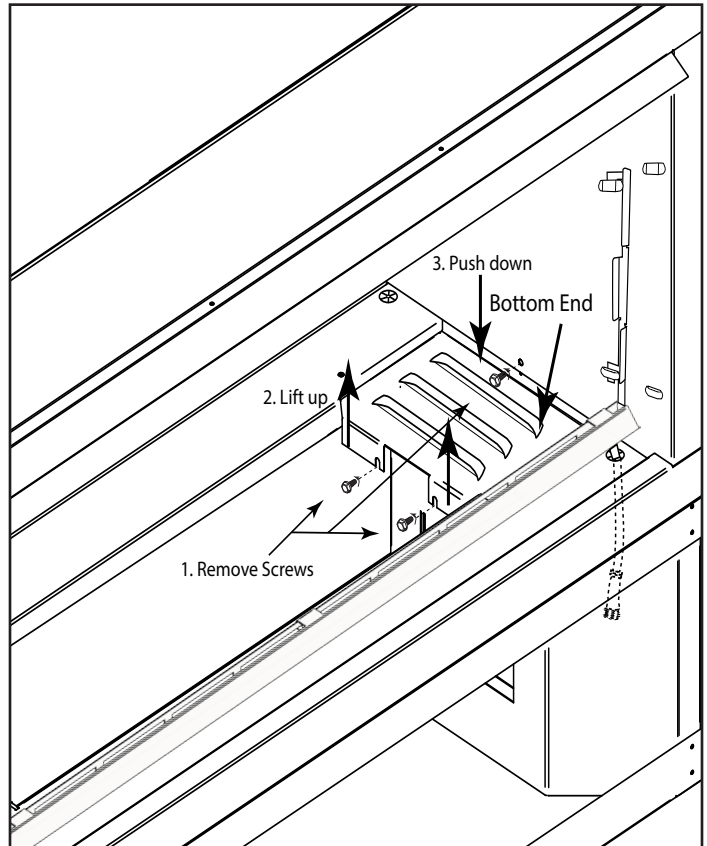
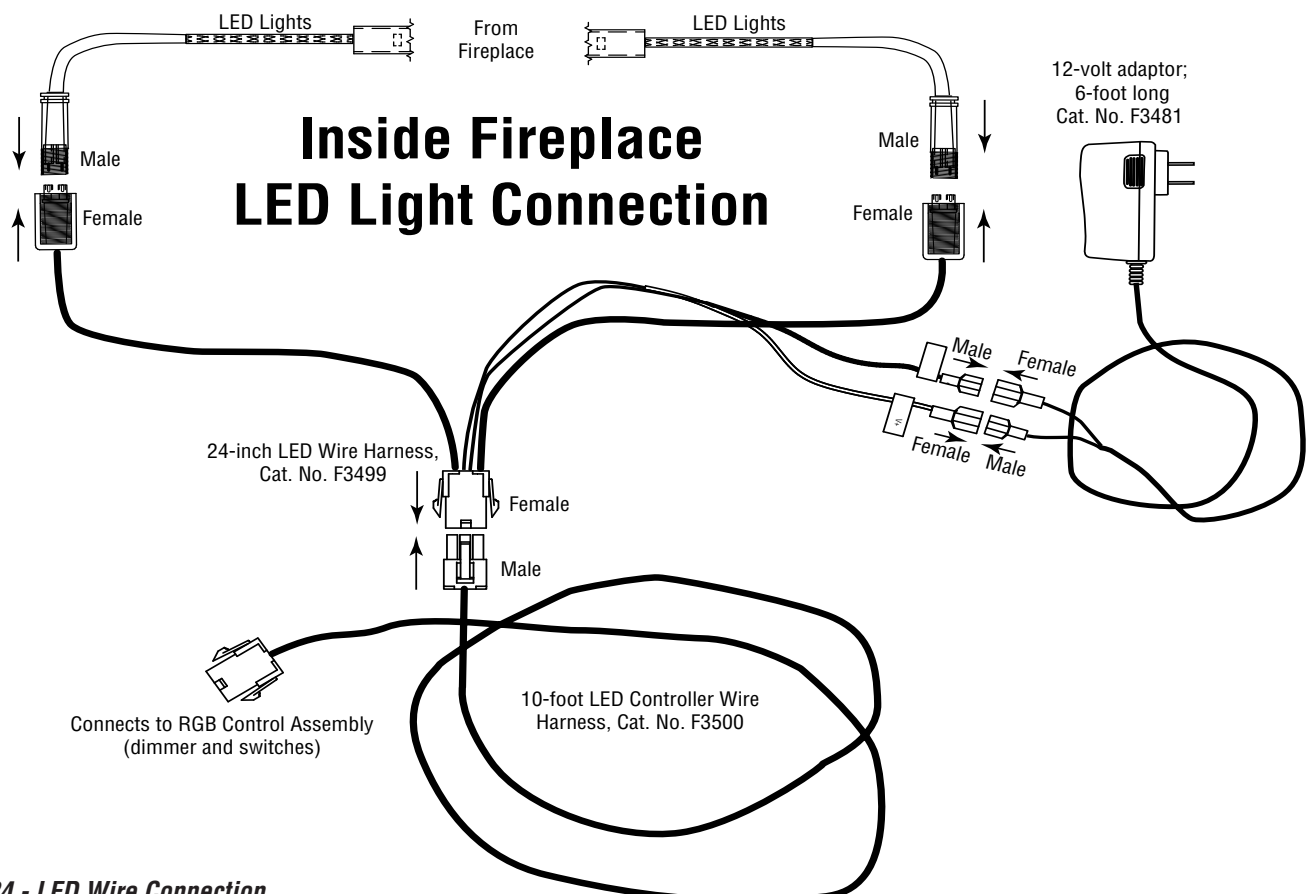

Figure 23 - Removing bottom end
Figure 24 - LED Wire Connection
Step 7: If needed, remove the screws from the “bottom end” of the burner pan area to provide additional room for wiring the LED lights. The “bottom end” fills the space between the burner pan and the fireplace side panel. It is held into place with three (3) screws. *See Figure 23.* First remove the two inside screws, then the screw securing the side wall. Lift up the area where the two screws were and push down where the single screw was, then lift the bottom end out of the fireplace.
Step 8: Using *Figure 23* below, insert the LED channel assembly female connector part, Cat. No. F3499 (protruding through the wire grommets) to the LED male connector. The male end of the LED connector will only insert into the female connector in one direction. Once locked in position, screw the threaded cap of the female connector securely over the male connector. **Note:** If you are using one set of LED lights the other female connector Cat. No. F3499 will not be used. *See Figure 24.*
Step 9: Attach Cat. No. F3499 to F3500 using the molex connectors. After connecting the LED lights into the F3500 wire harness insert the 12-volt adapter 77102 with 1/4” terminals) into the (red & black wires) of LED wireharness. Plug the 12-volt adapter into the 120VAC GFCI box with weather proof cover. *See Figure 24, page 18.*